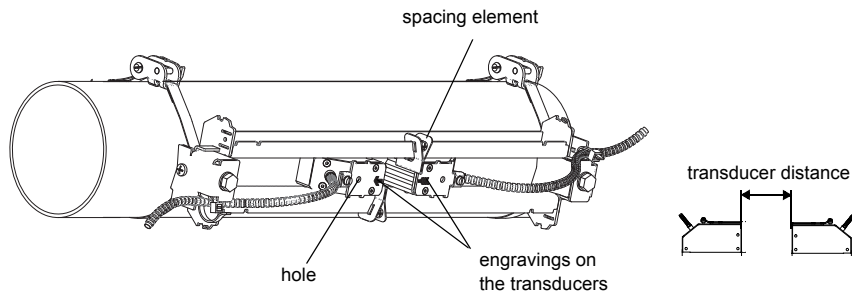

Fig. 7.17: Transducers in the rail (spring clip not shown)
- Position the transducers on the rail in such way that the engravings on the transducers form an arrow. The transducer cables show in opposite directions (see Fig. 7.17).
- Adjust the transducer distance displayed by the transmitter (see section 9.6 and Fig. 7.17).
- Fix the transducers by tightening the tensioning screws slightly. The end of the screw has to be placed above the hole in the transducer (see Fig. 7.17).
- Fix the spacing element on the rail to mark the transducer position (see Fig. 7.17).